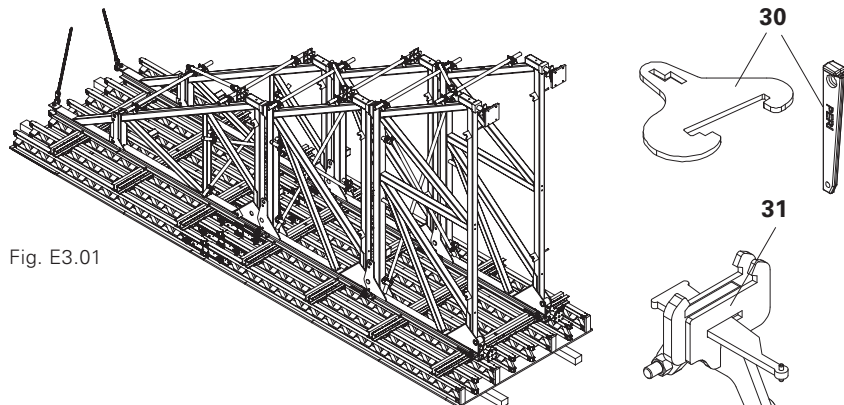

Fig. E3.01
1. Position unit on timbers. (Fig. E3.01)